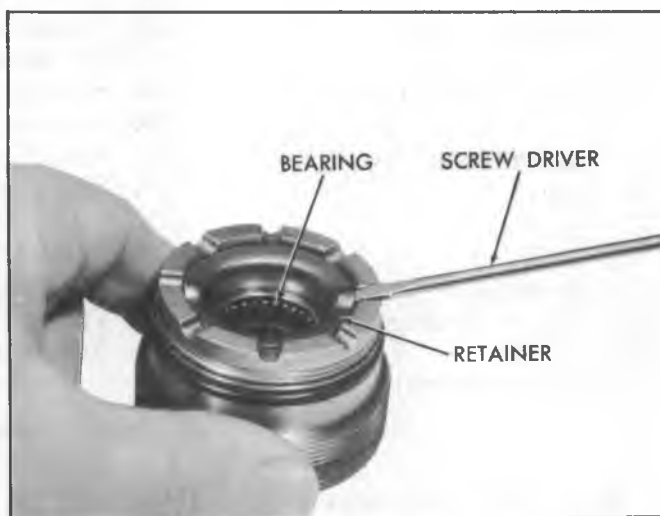

Fig. 38—Removing Retainer
2. If the thrust bearing ONLY is to be removed, pry the thrust bearing retainer at the two raised areas with a small screw driver (fig. 38). Remove the spacer, thrust bearing washer, thrust bearing and washer. Discard the retainer.